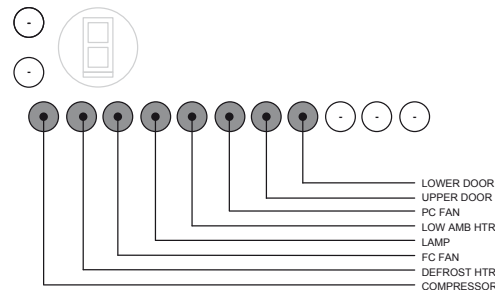

Fig.1 Input/output assigned to each LED
- The respective LED turns on when a device is running, as shown in Fig.1 above.